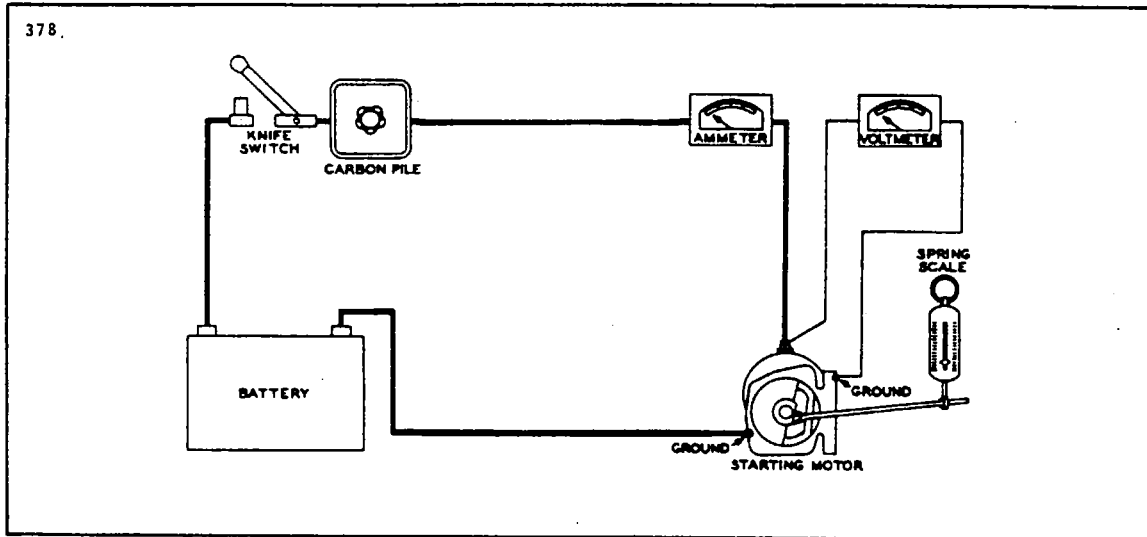

Figure 11-44. Stall-Torque Hook-up
b. If no difficulty is indicated in the above test, a stall torque test may be made to see if the starting motor is producing its rated cranking power. Make test connections as shown in Figure 11-44.